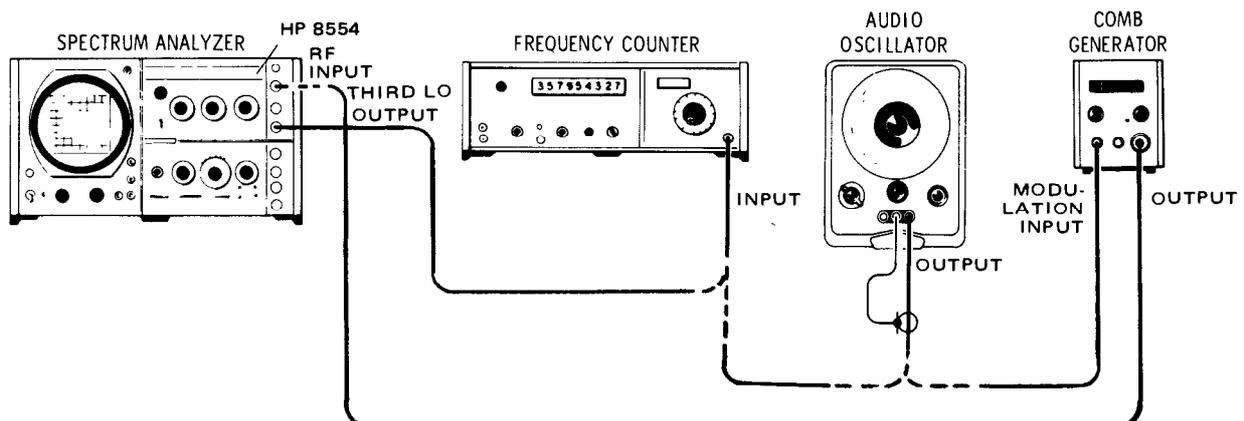

Figure 5-1. 500 MHz Local Oscillator Adjustment Test Setup (ERRATA)
2. Connect equipment as shown in Figure 5-1 with frequency counter connected to 8554B THIRD LO OUTPUT. Do not connect comb generator.